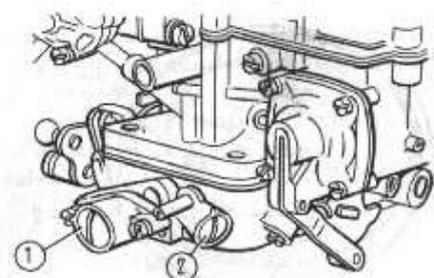

Fig 37. Idling system adjustment screws: 1- Idle speed screw limiting bushing, 2- idle mixture screw limiting bushing.
Every 10.000 Km (and also after the first 2,000-3,000 Km if the car is new), adjust the minimum idling speed of the engine. Have this adjustment done at a service station. The Owner is allowed only to carry out fine adjustment of the engine idling speed within the range permitted by idle speed screw limiting bushing 1 (Fig. 37) and by idle mixture screw limiting bushing 2. Attempts to turn the bushings through a larger angle will destroy them. In this case the Manufacturer bears no responsibility for excessive content of carbon monoxide (CO) in the exhaust gases and for excessive fuel consumption.